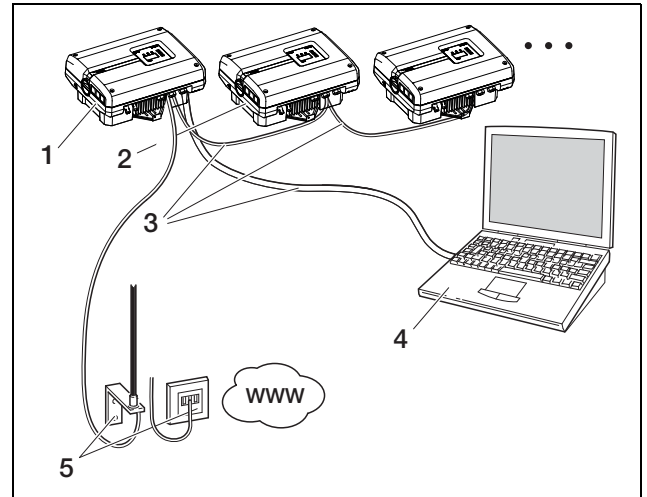

Fig. 51: Network settings with manual network configuration for analogue or GSM communication, subnet screen 255.255.255.0 (☐ external router)
- You have a local network (Ethernet) with fixed IP addresses and want to integrate the inverter into the network (figure 51).